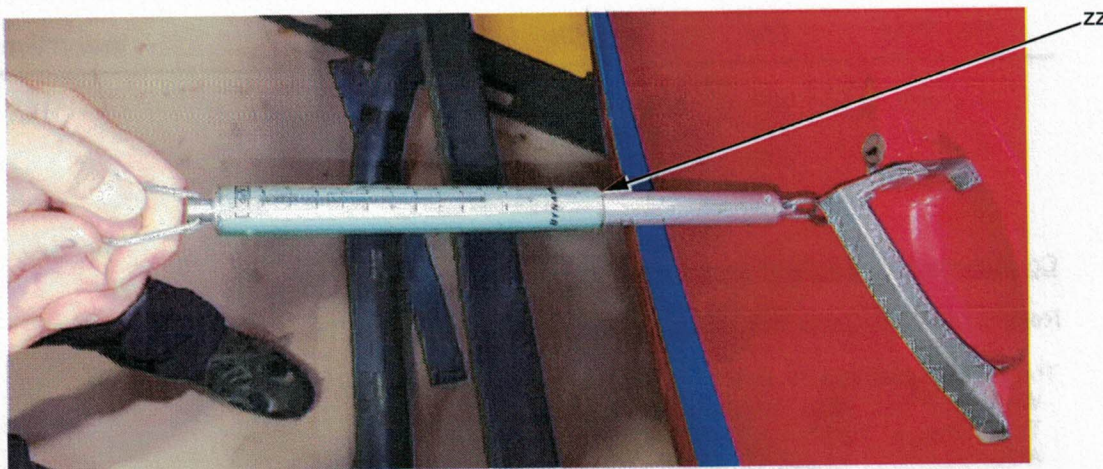

Figure 1
3.B.1. Measurement of the load required to operate the sliding door opening mechanism (Figures 1 and 2)
- With spring scale (zz) and **as per Figure 1**, measure the load required to operate the sliding door opening mechanism by pulling the external handle of the sliding door.
- With spring scale (zz) and as per Figure 1, measure the load required to operate the sliding door opening mechanism as per paragraph 3.B.1.